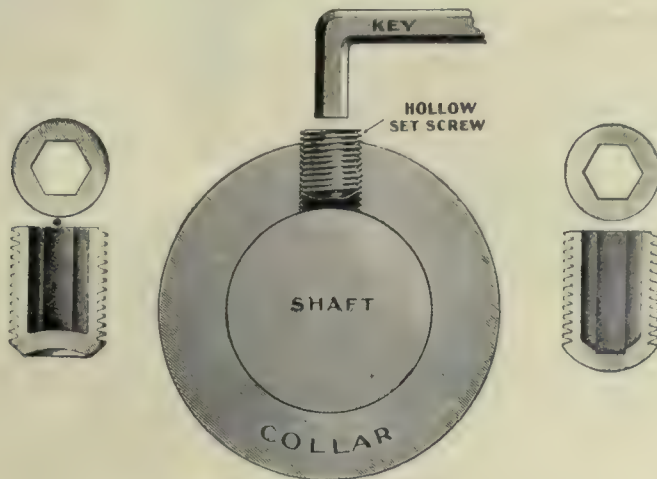

Fig. 5.—Hollow Set-Screws.
3). By the use of hollow-set screws. These are made to take a hexagonal key or socket-wrench, as shown in Fig. 5. Either of the two latter obviate the